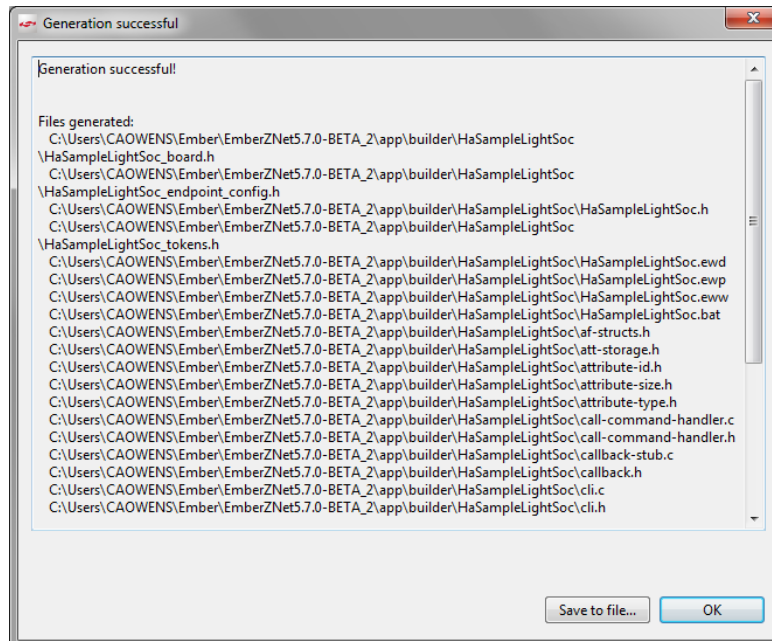

Figure 24 Generation Confirmation Dialog
2. Once generation is complete, a dialog reporting results is displayed (Figure 24). Click **[OK]**.